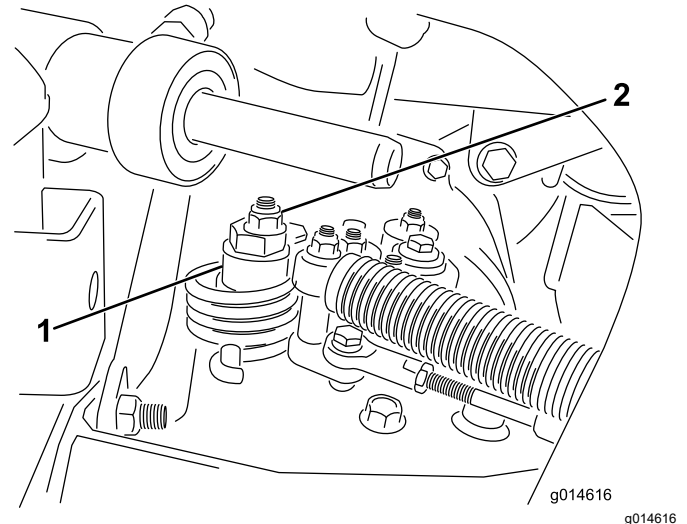

Figure 52
- A. Loosen the nut securing the eccentric to the top of the hydrostat (Figure 52).
- C. Rotate the eccentric until creep does not occur in either direction. When the wheel stops rotating, tighten the nut locking the eccentric and the adjustment (Figure 52). Verify the adjustment with the throttle in the SLOW and FAST position.